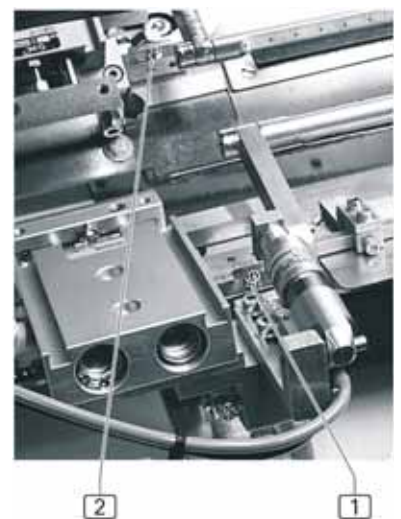

fig. 18
4. **fig. 18:** If necessary, adjust the pressure with the adjusting screws [1] and [2]. The pressure is set separately for each surface. The adjustment screw is an Allen screw fixed with a counter nut. By turning anti-clockwise the pressure in the front area of the clamp is increased.